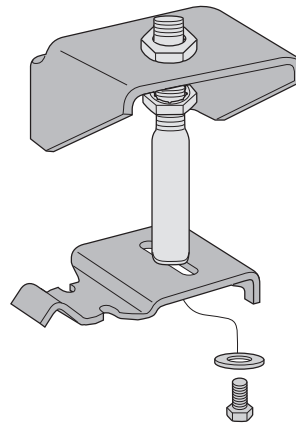

fig. 5
2. Secure the upper bracket (B) to the installation tool (D) using the provided nylon nut (F) (fig. 5).
3. Loosely attach the tool to the lower bracket (C) using $\frac{1}{2}$ ” flat washer (H) and $\frac{1}{2}$ ” bolt (G). Refer to fig. 5. Leave loose for adjustment.